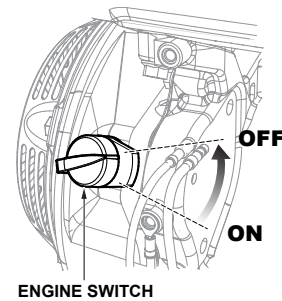

Figure 17. Engine ON/OFF Switch (OFF)
2. After the engine cools, turn the engine **ON/OFF** switch to the **OFF** position (See Figure 17).